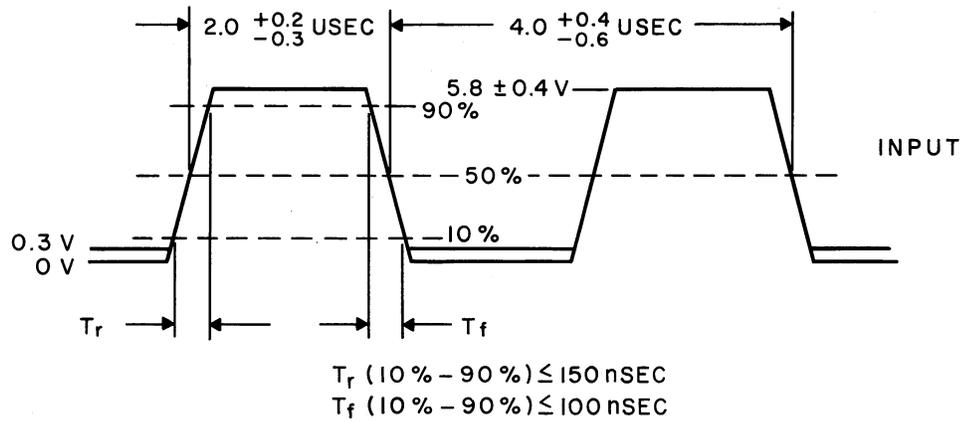

Fig. 6 - (Complementary Flip-Flop Test)
- (1) Connect the EXT SYNC lead to J7 on the test set.
- (2) Connect the CHAN A probe to J7 on the test set.
- (3) Connect the CHAN B probe to J4 on the test set.
- (4) The input test pulse on J7 shall be as specified in Fig. 6.
- (5) Rotate the INPUT selector through positions 1 to 6.